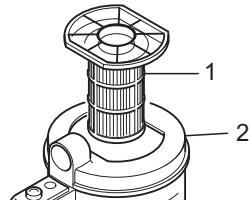

Fig.20
3. Remove the central laminar filter (Fig. 20/1) by taking it up out of the dust container (Fig. 20/2).